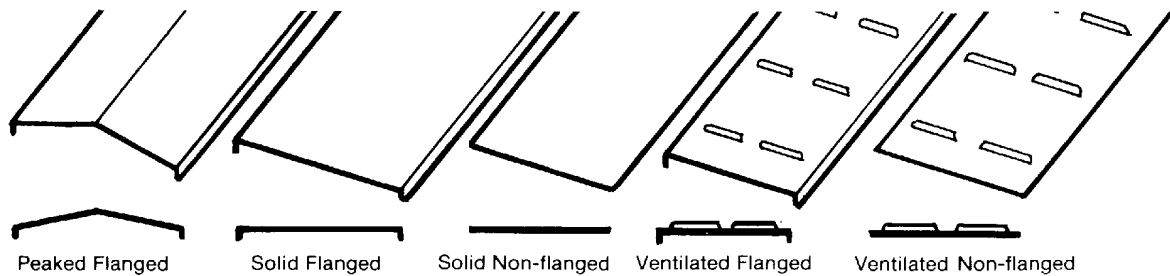

Figure 4.55
4.6.5 Covers and Clamps (See Figures 4.55 and 4.56.)